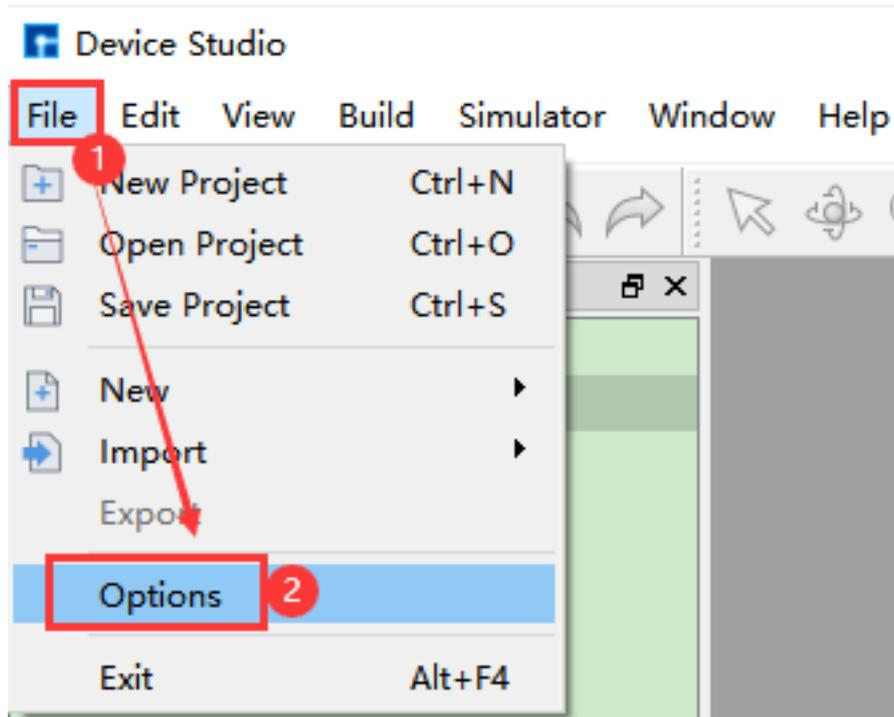
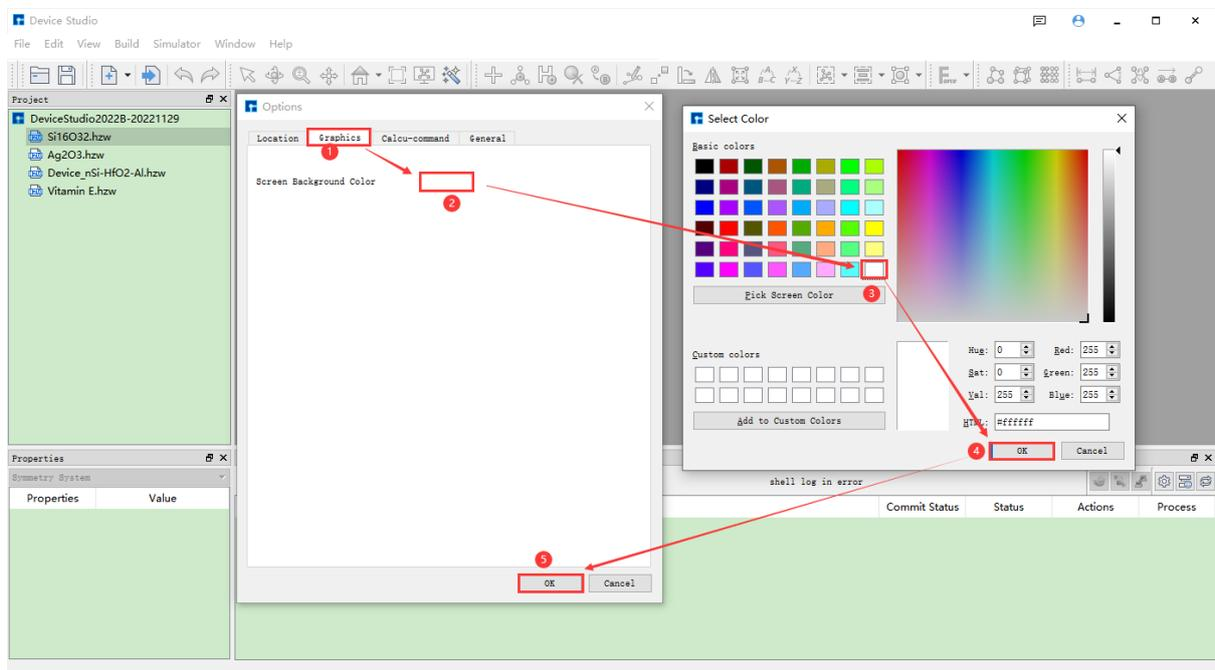
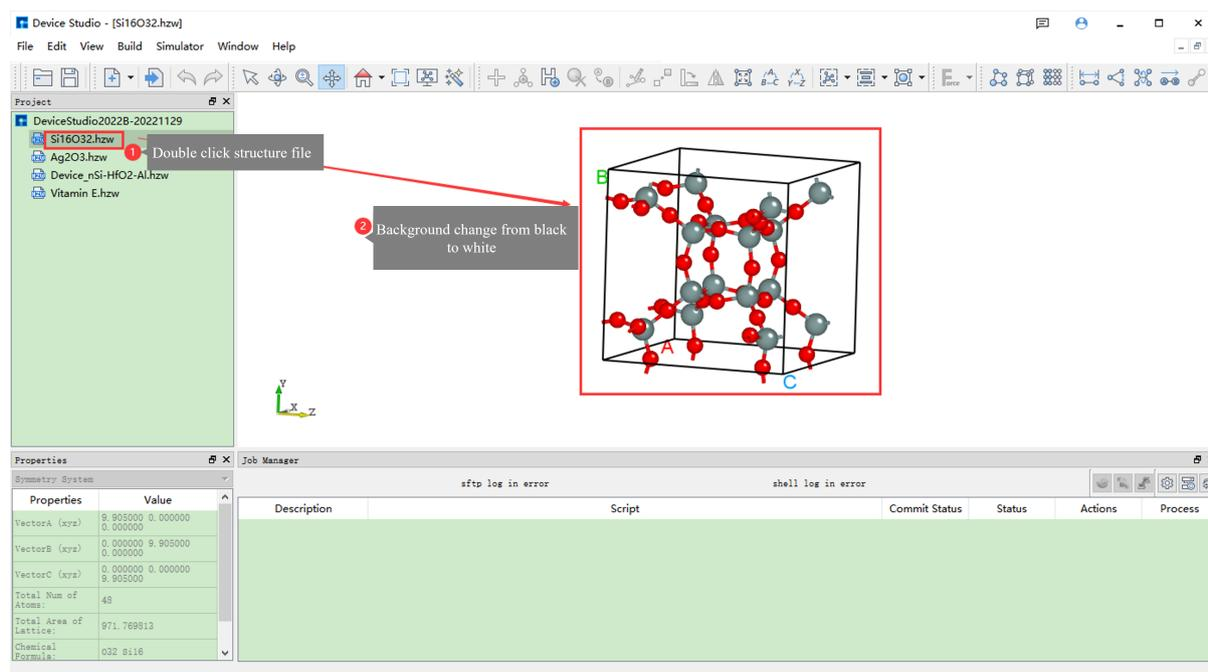

fig. 8.2: Step One: Change the **Background Color** of Structure Display in Device Studio Main Interface from **Pure Black** to **Pure White**
fig. 8.3: Step Two: Change the **Background Color** of Structure Display in Device Studio Main Interface from **Pure Black** to **Pure White**
fig. 8.4: Step Three: Change the **Background Color** of Structure Display in Device Studio Main Interface from **Pure Black** to **Pure White**
2. Method Two: When no structure is displayed in the Device Studio main interface, as shown in fig. 8.2, fig. 8.3, and fig. 8.4, these are the operation steps for changing the **background color** of the Si16O32 crystal structure display from **pure black** to **pure white**.